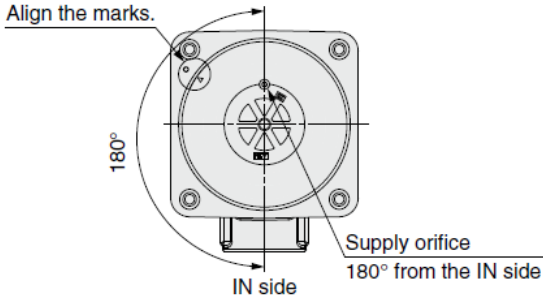

Fig.3 - Main valve position (Port size: 06, 10)
- Assemble the main valve (sub-valve) to the body, with reference to mounting orientation shown in Figs.3 and 4.